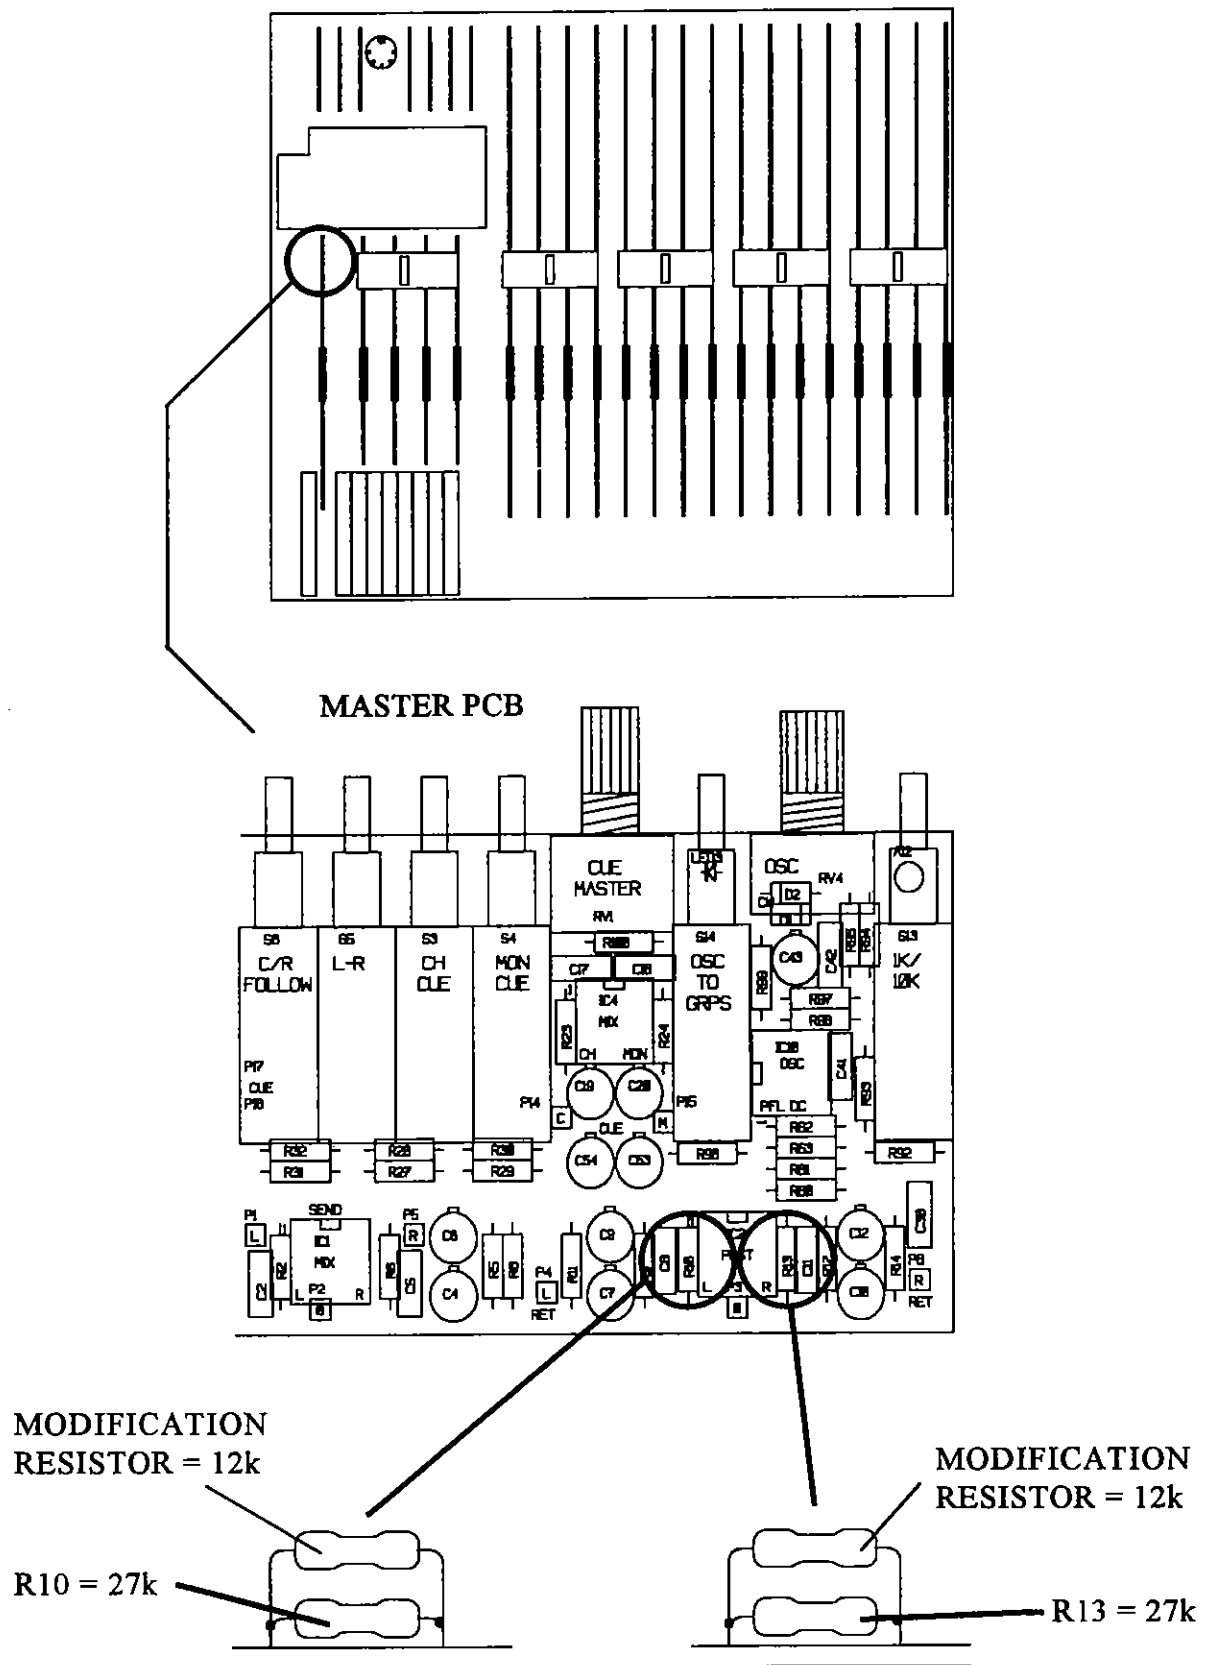

Fig. 6.
2. Locate the 27K resistors R10 and R13 on the Master PCB, see Fig. 6. Solder two 12K resistors across R10 and R13 on the Master PCB. Tin the resistor legs first and check your work to ensure good solder joints.